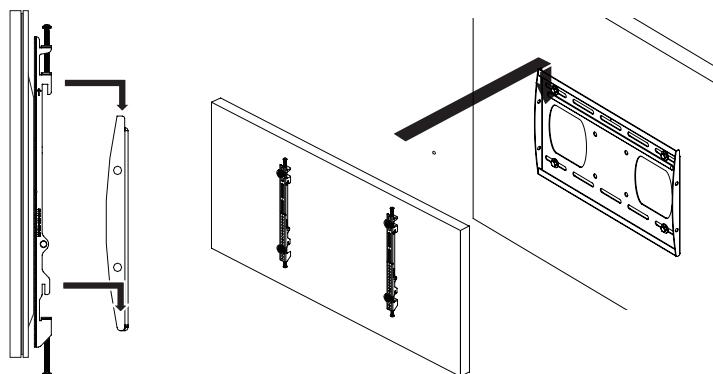

Figure 1
- 3) Mark the straw or toothpick  $1/8"$  above the depth of the threaded insert, as shown in Figure 1.